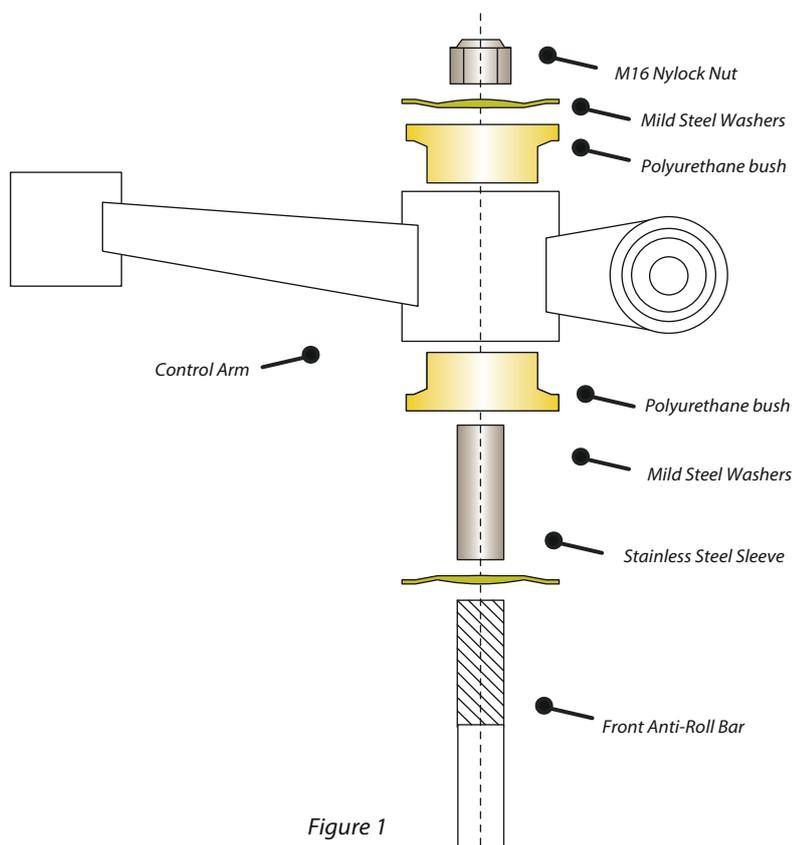

Figure 1
3. Fit the polyurethane bushes to the control arm as shown in Fig 1.